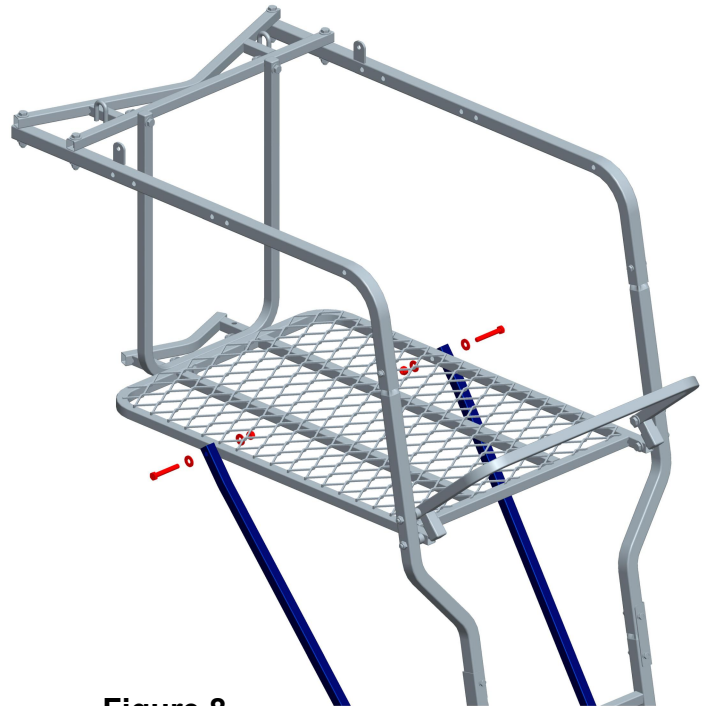

Figure 8
Install another end of Ladder Braces (#9) onto Standing Platform (#8) using two (2) M8x55 Bolts, four (4) Steel Washers and two (2) Locknuts as shown in Figure 8. Securely tighten bolts on both ends of Ladder Braces.